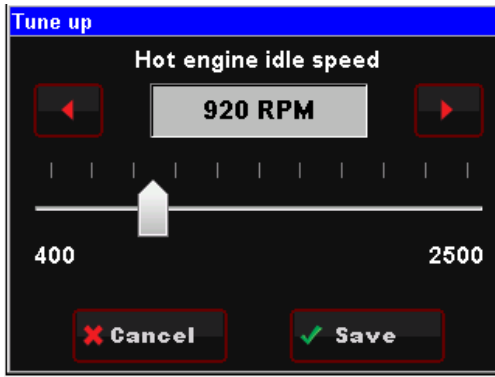

Figure 8 – Slider Bar
**Slider Bar:** Slide the bar left or right with the stylus, or use the right and left arrow keys for fine adjustment (**Figure 8**).